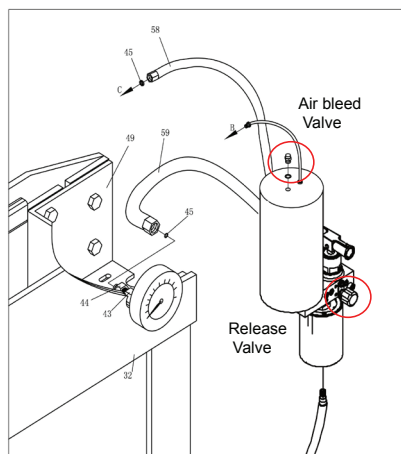
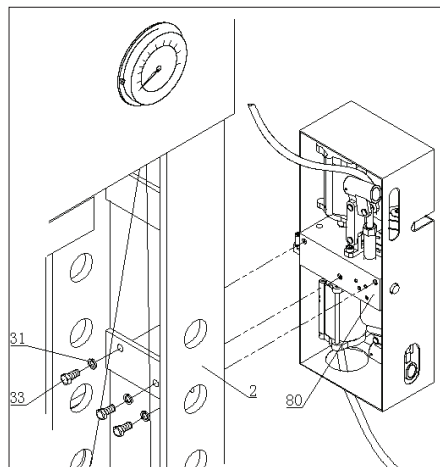

Fig.07
Fig.09
- Move the pump assy, Fig.07 (WP75P), Fig.09 (WP100P),to the outside of the post, use bolt and washer which dismantled just now to twist tight on the right connecting plate .
- Open the release valve, by turning it in an anti-clockwise direction, and open air bleed vavle, Fig.07.
- Close the release valves, Fig.07, by turning it clockwise until it is firmly closed.